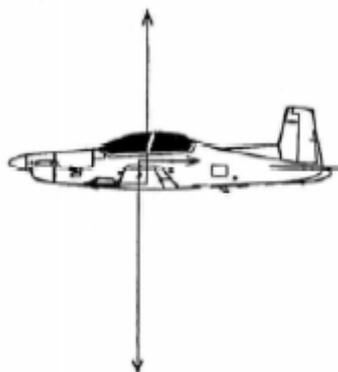

FIG 1.2
**1011.** A more likely distribution of the forces on an aircraft would be as shown in FIG 1.2.
**1012.** The lift and weight, as they do not act at the same point, try to turn the aircraft tall over nose. In fact, in FIG 1.2., the lift/weight pair would win the tussle - for in an